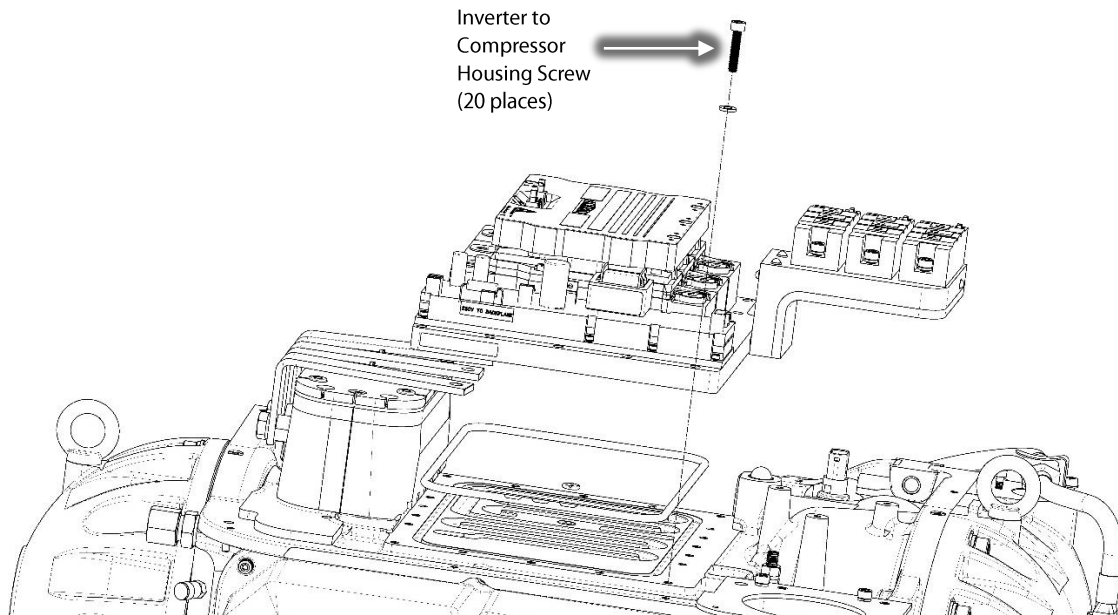

Figure 20 – Inverter Removal
29. Remove the fasteners that secure the Inverter to the compressor main housing. Refer to Figure 20 (Inverter Removal).
30. Carefully, remove the Inverter and discard the two (2) O-rings underneath. (Note that the SCR cooling manifold will be attached to the Inverter cooling plate.)